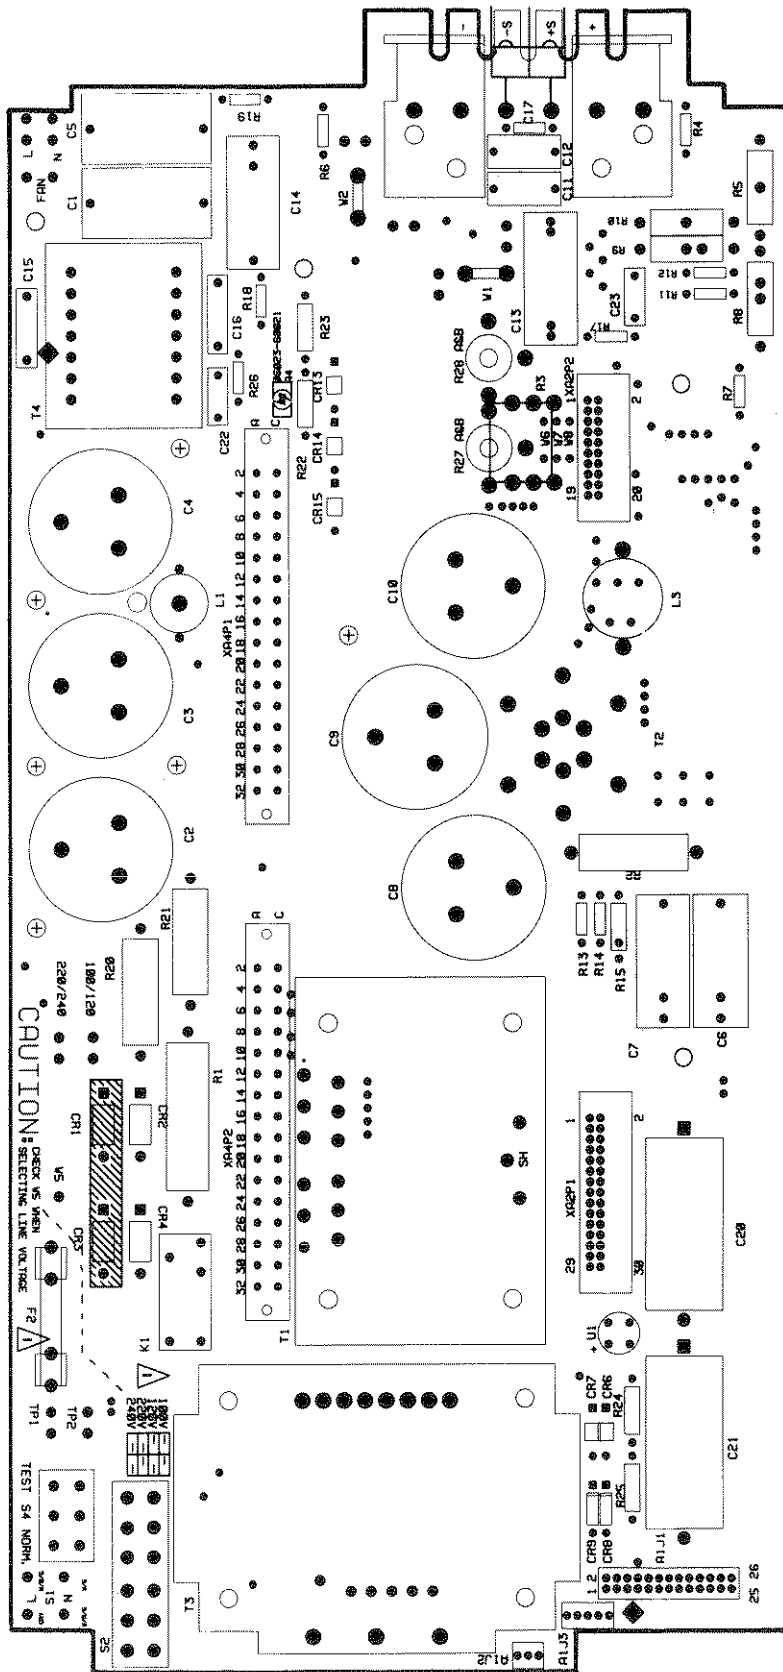

Figure 7-2. Main Board (A1) Component Location
- a. Component location illustrations (Figure 7-2 through 7-5), showing the physical location and reference designators of almost all electrical parts. (Components located on the rear panel are easily identified.)